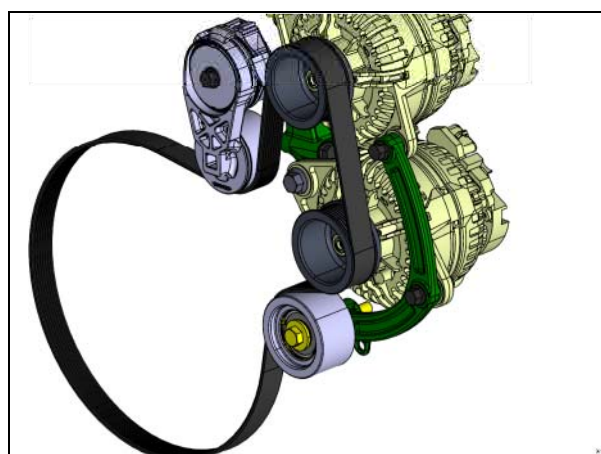

FIGURE 24
13. Install the alternator belt (**FIGURE 24**)